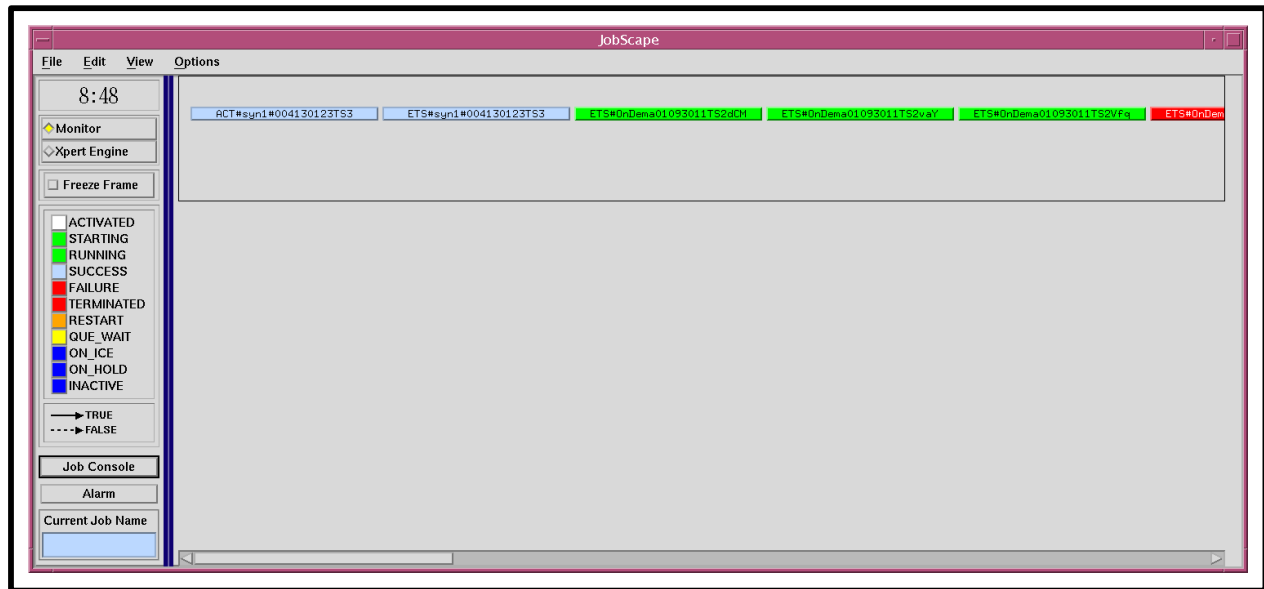

Figure 63. JobScape GUI “One Level” View
- Selecting 1 provides a display of the box level only, as shown in Figure 63.